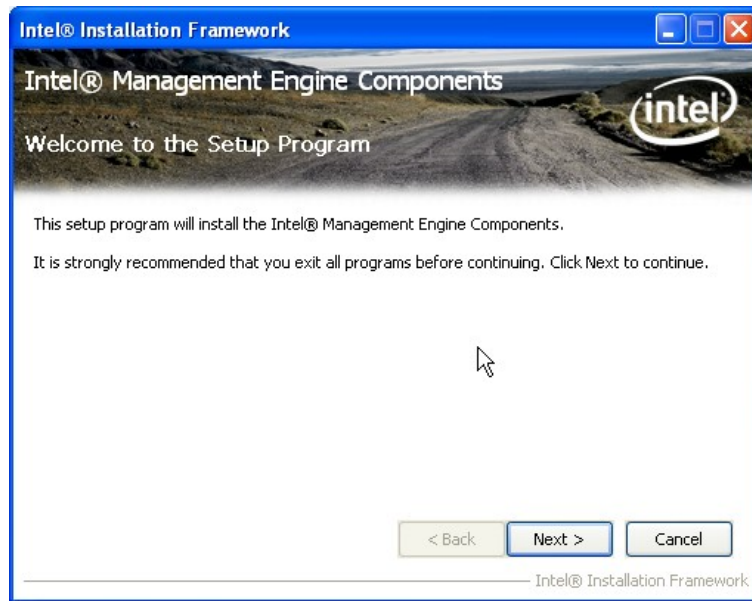

Figure 6-28: Intel® ME Driver Welcome Screen
Step 5: When the setup files are completely extracted the **Welcome Screen** in **Figure 6-28** appears.